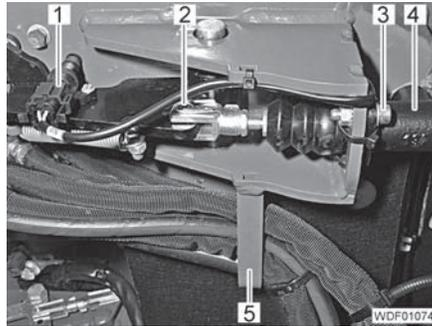

Fig. 335 Main brake cylinder
- Thread out all the lines from the bar (Fig. 335,5).
- Unplug the plug on the switch (Fig. 335,1) of the service brake.
- Unlock the pin (Fig. 335,2) and pull it out of the fork end.
- Unscrew the 2 screws (Fig. 335,3).
- Remove the main brake cylinder (Fig. 335,4) towards the back and place it on the rear carriage.